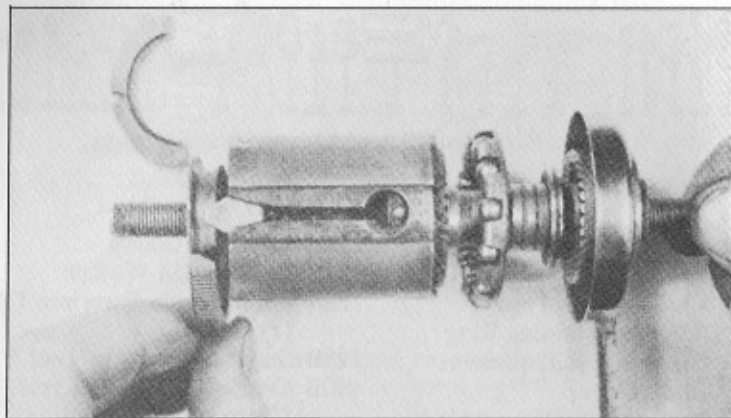

Fig. 59. Assembling the Morrow.
5. Install cone and axle assembly (Fig. 59).